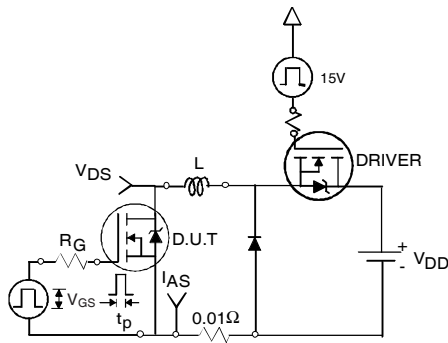

Fig 12a. Unclamped Inductive Test Circuit
- ③ Pulse width $\leq 1.0ms$; duty cycle $\leq 2\%$.
- ④ $C_{oss \text{ eff.}}$ is a fixed capacitance that gives the same charging time as C_{oss} while V_{DS} is rising from 0 to 80% V_{DSS} .
- ⑤ Limited by T_{Jmax} , see Fig.12a, 12b, 15, 16 for typical repetitive avalanche performance.
- ⑥ This value determined from sample failure population, starting $T_J = 25^\circ\text{C}$, $L = 0.10mH$, $R_G = 25\Omega$, $I_{AS} = 75A$, $V_{GS} = 10V$.
- ⑦ This is applied to D²Pak, when mounted on 1" square PCB (FR-4 or G-10 Material). For recommended footprint and soldering techniques refer to application note #AN-994.
3. Equation below based on circuit and waveforms shown in Figures 12a, 12b.